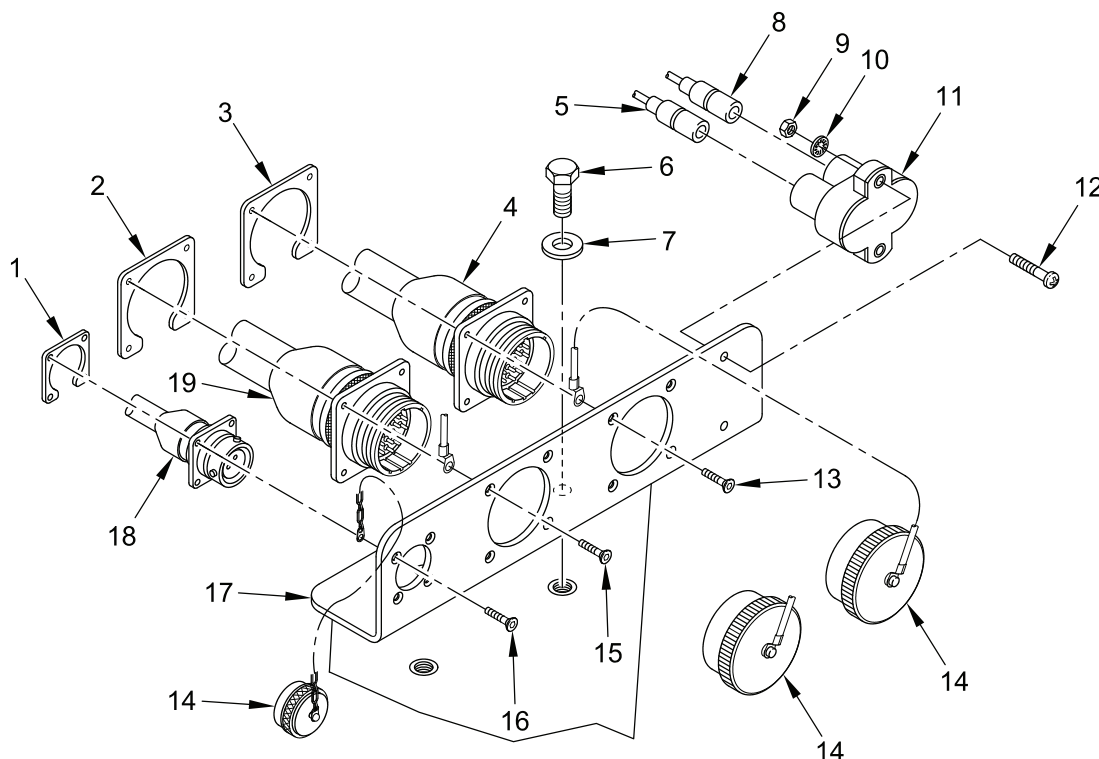

Figure 3. Install HDC Disconnect Bracket
1. Install disconnect bracket (Figure 3, item 17) on bulkhead with two flat washers (Figure 3, item 7) and two new self-locking screws (Figure 3, item 6).
2. Install HDC circuit breaker (Figure 3, item 11) with two screws (Figure 3, item 12), two new lockwashers (Figure 3, item 10), and two nuts (Figure 3, item 9) to HDC disconnect bracket (Figure 3, item 17).
3. Connect circuit 1070 (Figure 3, item 5) and circuit 10 (Figure 3, item 8) connectors to HDC circuit breaker (Figure 3, item 11).
4. Connect wiring harness connector W3 J1 (Figure 3, item 4) to disconnect bracket (Figure 3, item 17) with nutplate (Figure 3, item 3) and four screws (Figure 3, item 13).
5. Connect wiring harness connector W2 J1 (Figure 3, item 19) to disconnect bracket (Figure 3, item 17) with nutplate (Figure 3, item 2) and four screws (Figure 3, item 15).
6. Connect wiring harness connector W1 J1 (Figure 3, item 18) to disconnect bracket (Figure 3, item 17) with nutplate (Figure 3, item 1) and four screws (Figure 3, item 16).
7. Install dust caps (Figure 3, item 14) on wiring harness connectors W3J1 (Figure 3, item 4), W2J1 (Figure 3, item 19), and W1J1 (Figure 3, item 18).